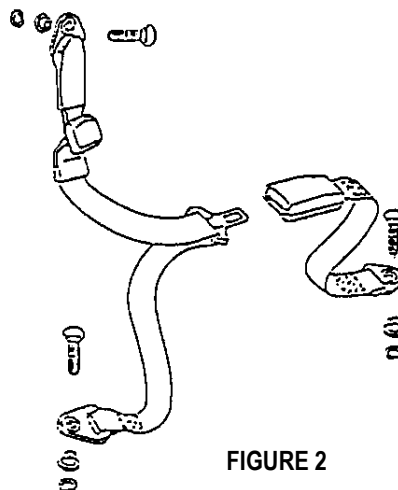

FIGURE 2
1. Assemble buckle side as shown in figure 2.
2. Assemble adjuster end of lap sash as shown in figure 2.
3. Assemble lower anchor of lap sash as shown in figure 2.